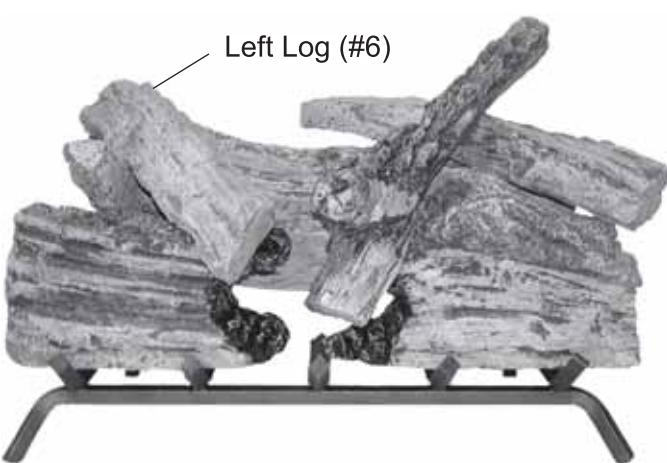

Figure 109 - Installing Left Log (#6)
8. Rest front of Left Log #6 just left of the middle of Log #1A and back end of Log #6 just left of middle of Log #3. *See Figure 109.*